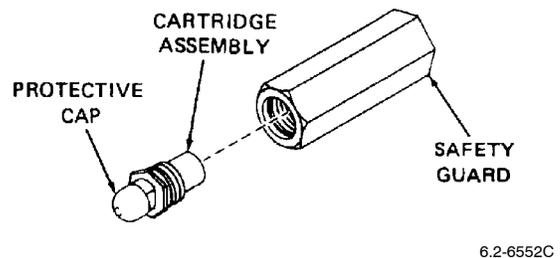

Figure 8. Remove Safety Guard
i. Remove safety guard from cartridge (Figure 8).